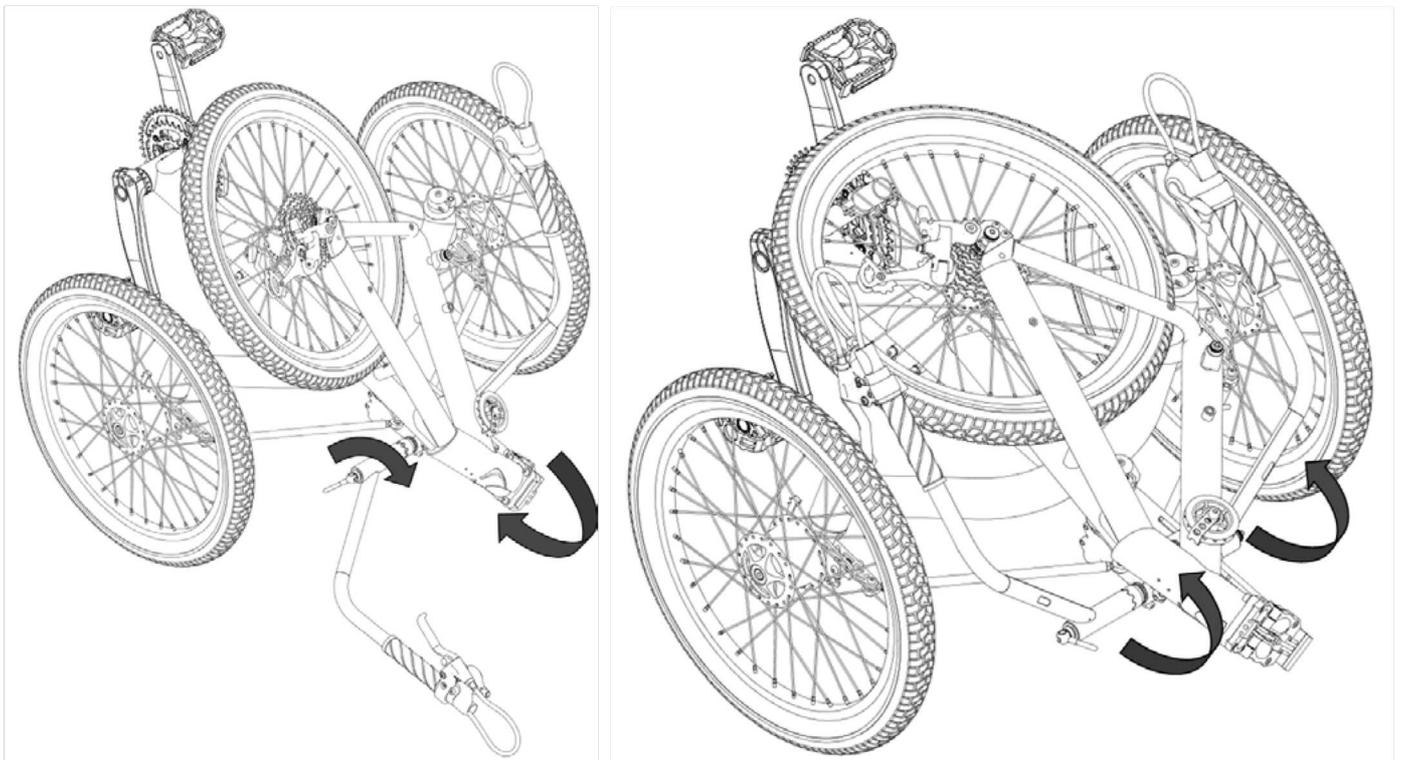

Figure 10 - Move left handlebar backward, fold the frame, then fold the handlebars forward
2. Open and loosen the handlebar QR and fold the left handlebar backward (Figure 10).
4. Fold handlebars forward (Figure 10).